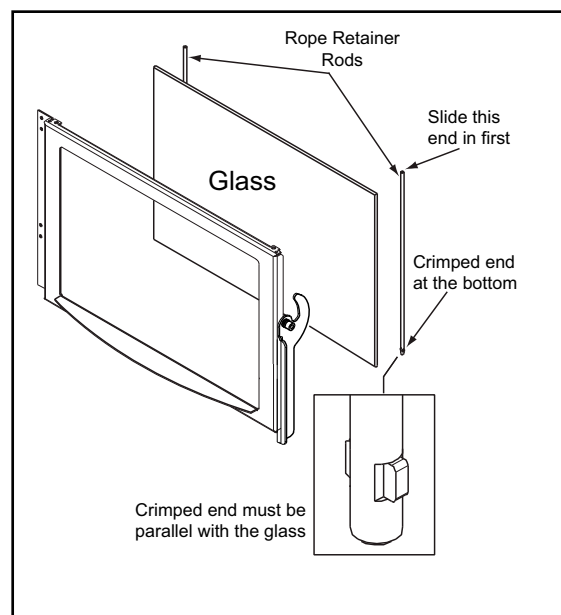

Figure 33.2
- Slide the retainer rod into the top hole first, and then line up the bottom crimped end with the hole in the door. The crimped end must be parallel with the glass in order to insert it into place. **Figure 33.2.**